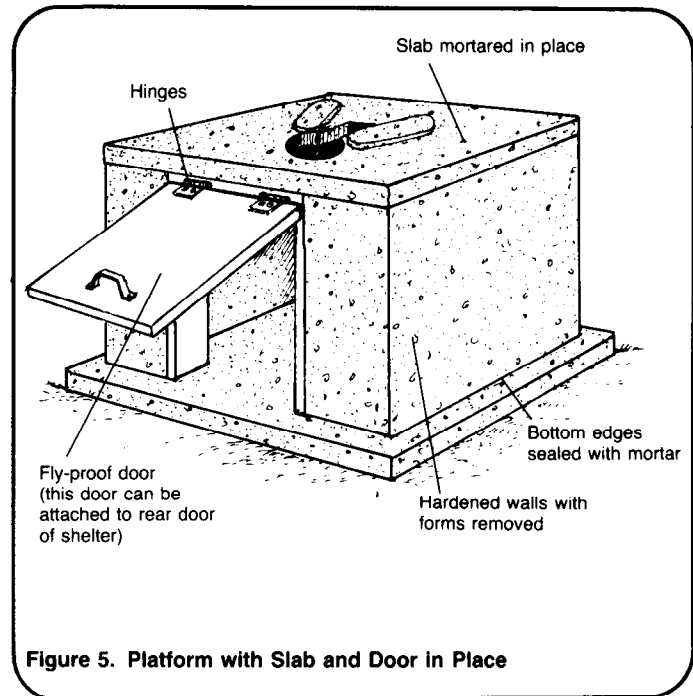

Figure 5. Platform with Slab and Door in Place
9. Remove the cover and forms from the walls. The form inside the rear wall opening can be left in place and serve as the frame for the fly-proof door. Seal the bottom edges of the walls, inside and outside, with cement mortar made with one part cement to three parts sand and enough water to make a workable mix. See Figure 5.